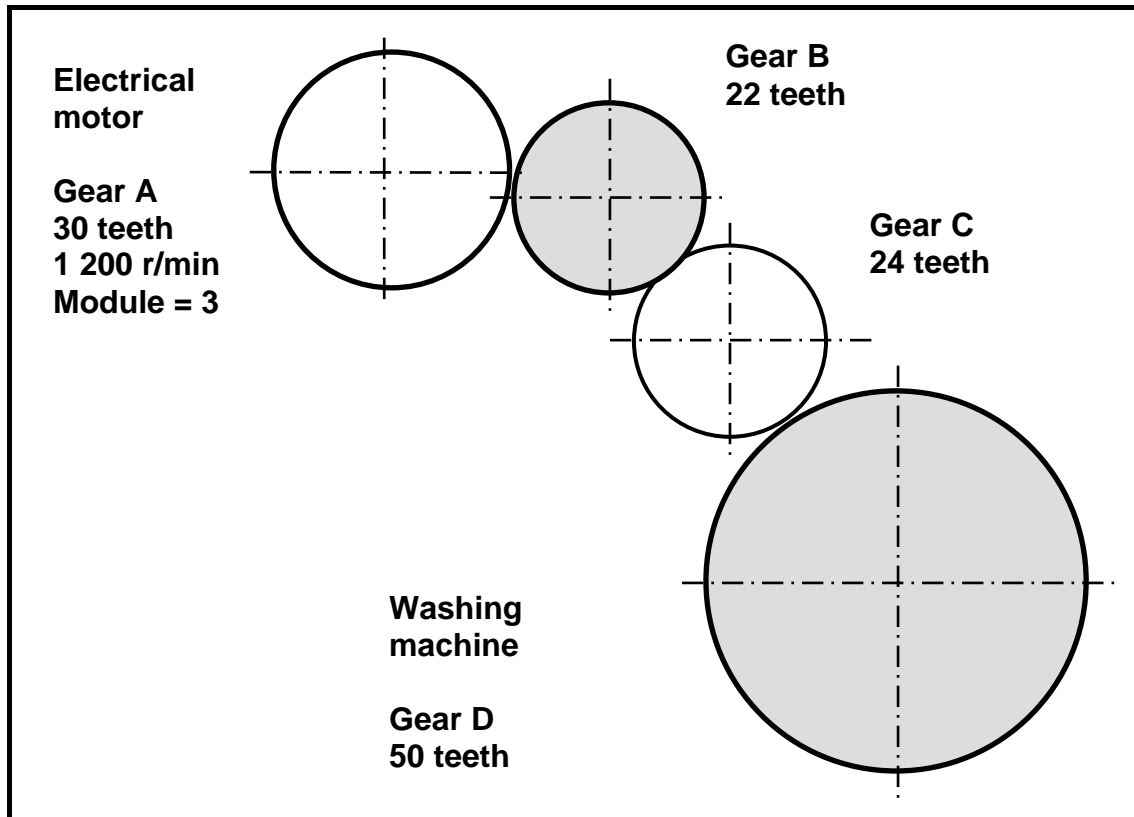

FIGURE 4.1
4.5 A gear train with four gears, gears A, B, C and D, which mesh with each other, are shown in FIGURE 4.1 below. The system is used as a reduction gearbox for an industrial washing machine. Use the information in FIGURE 4.1 to answer the following questions.